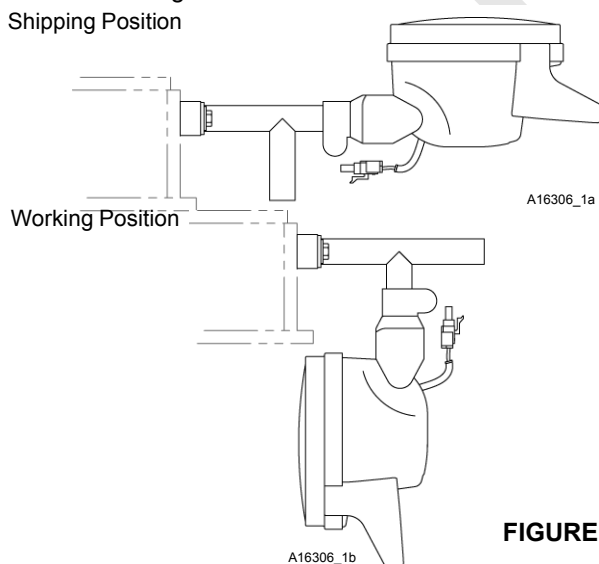

FIGURE 4-32
6. Remove the optional boom light from the shipping position tube by loosening the thumbscrew at the base of the light. Move the light to the working position tube (see Figure 4-32) and tighten the thumbscrew. Connect the boom light to electric cable WCLE.
- c. Disconnect the optional boom working light from electric cable WCLE. Loosen the thumbscrew, remove the light from the working position tube, and secure the light in the shipping position in the boom butt (see Figure 4-32).
- a. Support the wire rope guide (17).
- b. Remove the safety pins (19) from the struts (18).
- c. Rotate the wire rope guide down to the shipping position and install the safety pins (19).